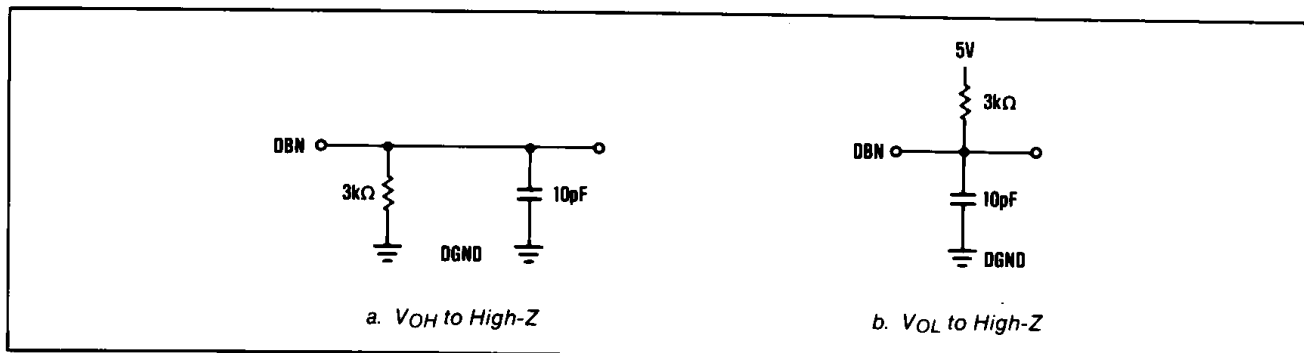

Figure 2. Load Circuits for Output Float Delay
**Note 11:**  $t_7$  is defined as the time required for the data lines to change 0.5V when loaded with the circuits of Figure 2.